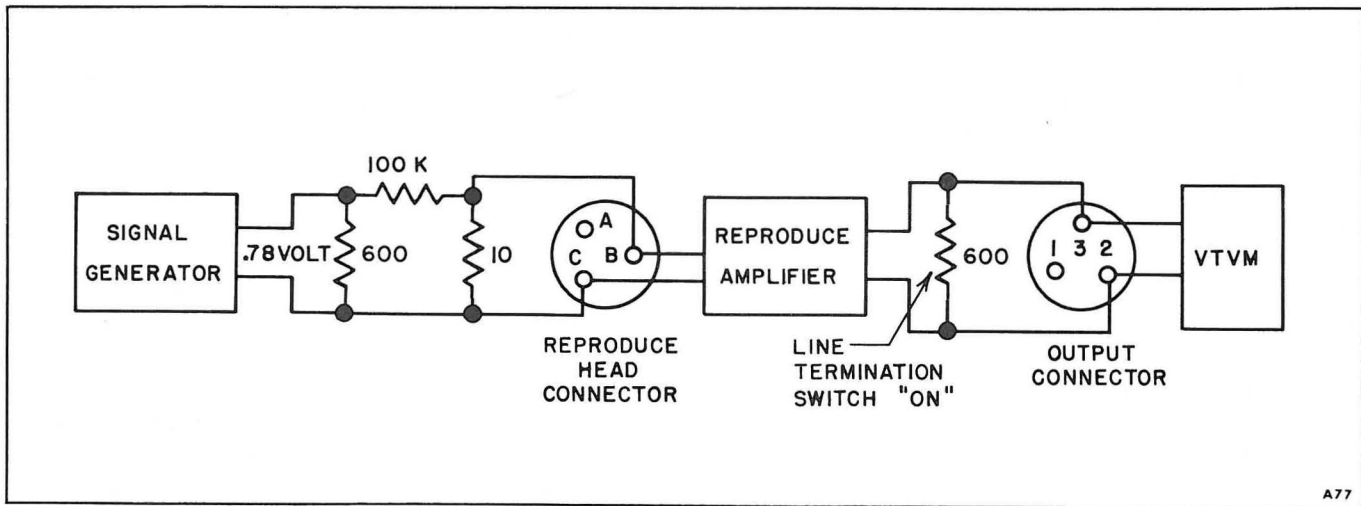

Figure 5-7. Reproduce Response Check Setup
5-74 Setups for response curve checks are given in Figure 5-7 and 5-8. Response curves for record and reproduce are shown in Figure 5-9. To check these curves proceed as follows:
b. Connect the signal generator and the vtvm as shown in Figure 5-7 or 5-8.